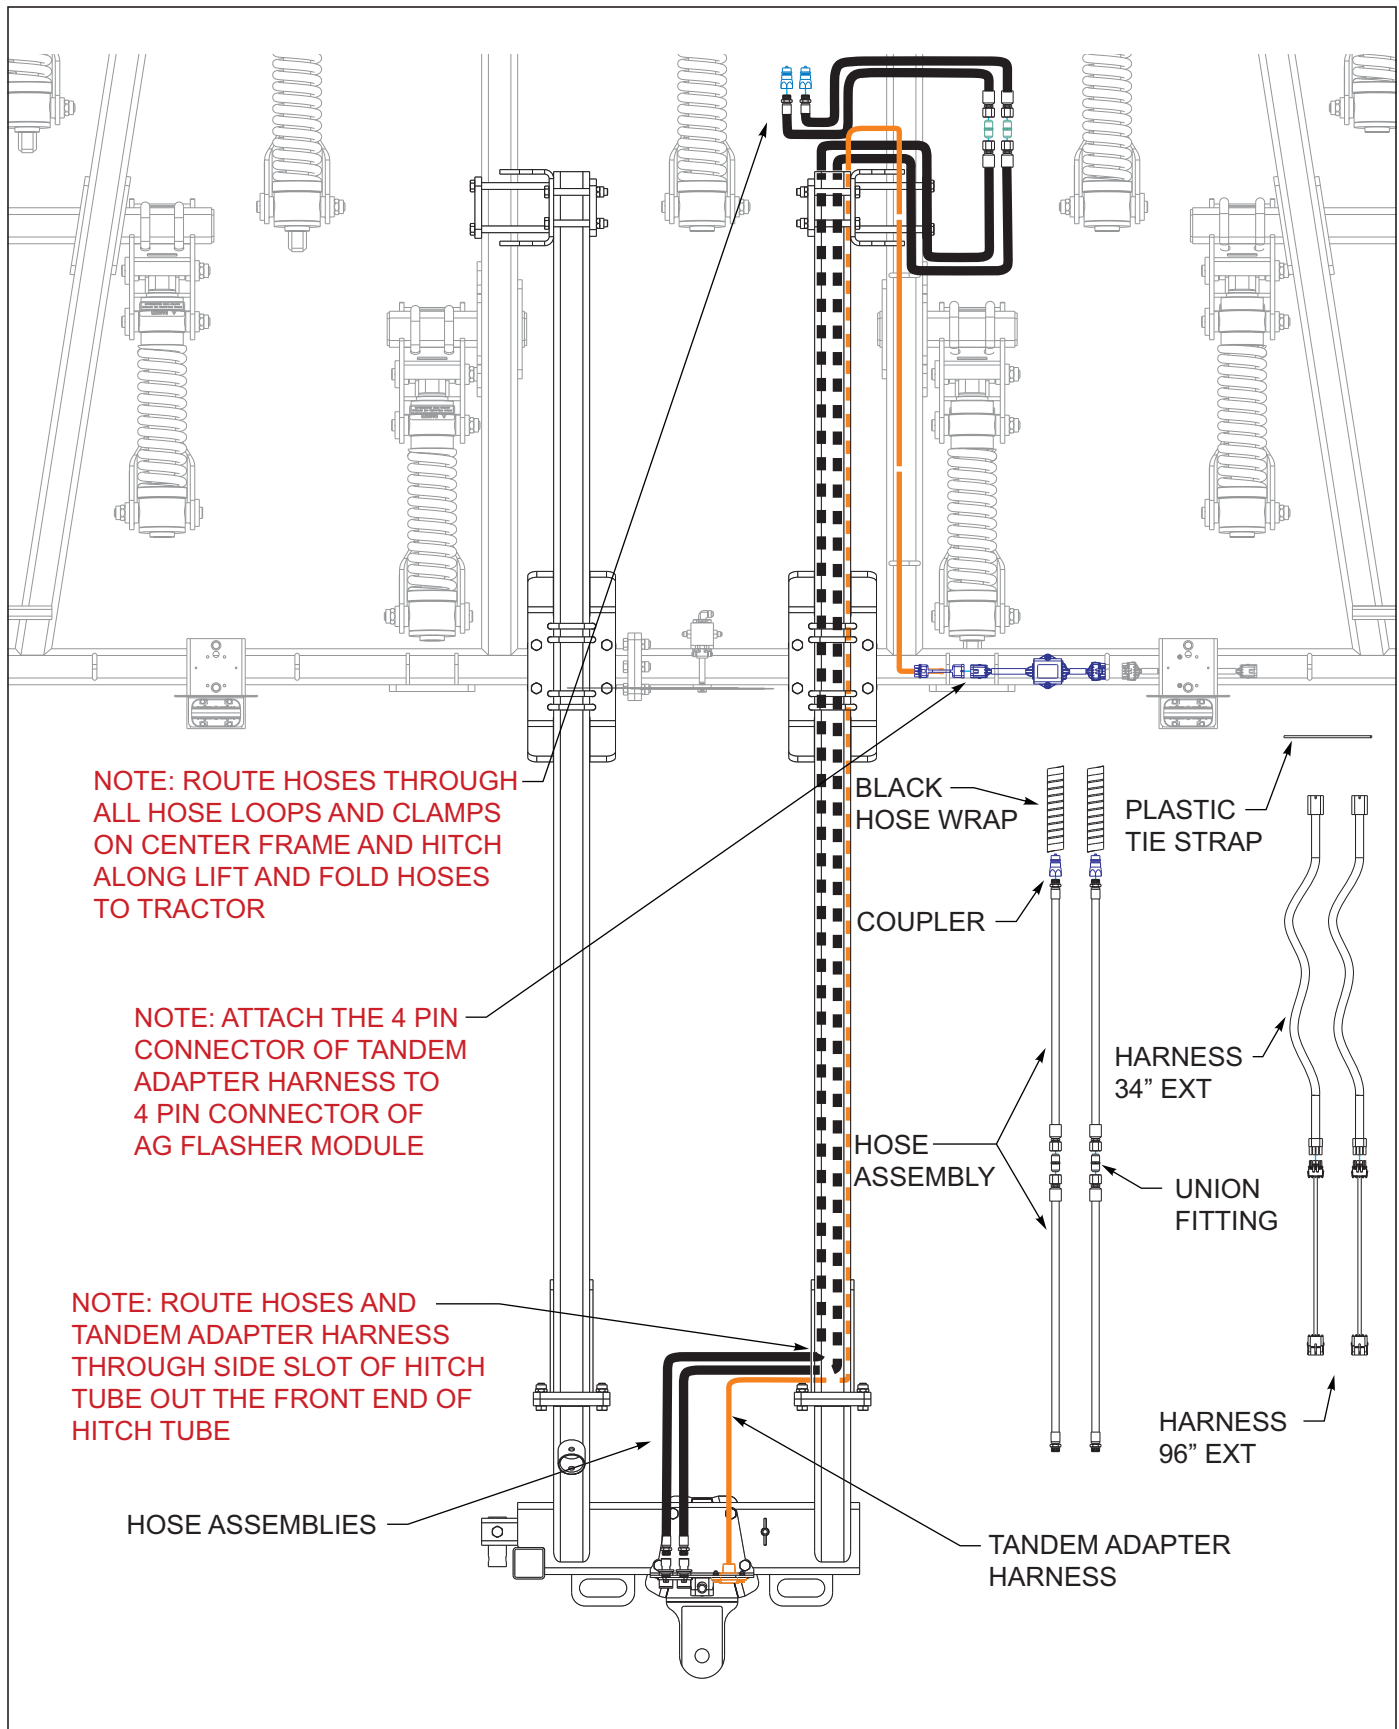

Figure 3-44: Rear Tow Hitch Layout
10. Route hydraulic hose assemblies on right side of hitch, through tube and follow hose loops to front as shown *See Figures 3-44.* Connect one end of the hyd mount assembly and the other end to the union fittings. Connect the couplers to the hose assembly. Attach the other end of the hoses to the union fittings as shown.